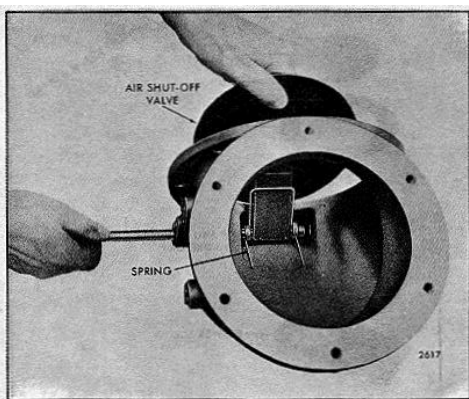

FIG. 4 Installing Air Shut-Off Valve Spring and Valve
4. Note the position of the air shut-off valve spring and valve (Fig. 4), then withdraw the shaft from the housing to release the valve and spring. Remove the valve and spring and the seal ring from the housing.
1. Place the valves and spring in position in the housing (Fig. 4) and slip the shaft in place. The shaft must extend .70 " from the side of the housing where the shutdown latch is assembled.